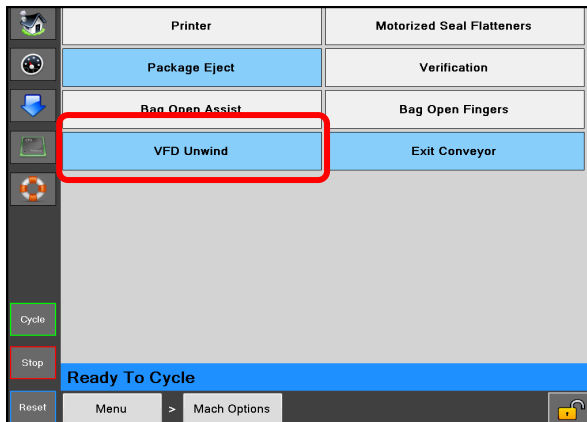

Figure 4-8B. Machine Options Screen.
2. Press the "VFD Unwind" pushbutton to open the Unwind Screen. Figure 4-8B.